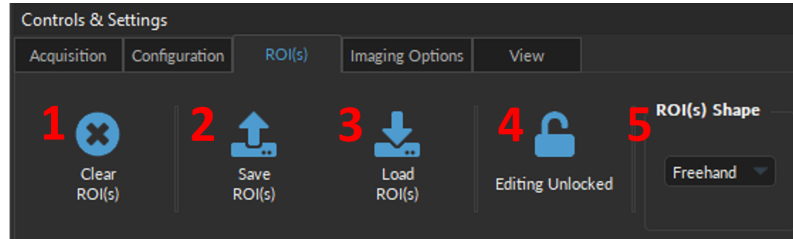

Figure 8.13: ROIs Tab
1. The **Clear ROI(s)** button (Fig. 8.13, 1) will delete all drawn regions of interest within the **Microscope View**. Note that unless the ROI(s) were previously saved, these ROI(s) cannot be recuperated.
2. The **Save ROI(s)** button (Fig. 8.13, 2) will save the region of interests drawn in the **Microscope View** in a *.doric* file, so that the identical ROI can be re-imported into the module at a later time. At least one ROI must be drawn for this feature to work.
3. The **Load ROI(s)** button (Fig. 8.13, 3) will import a previously saved *.doric* file. Note that this ROI(s) configuration can be edited, but must be re-saved in order for changes to be conserved.
4. The **Editing Unlocked** button (Fig. 8.13, 4) when enabled will prevent new ROI(s) from being drawn. However, it does not prevent moving or reshaping a selected ROI.
5. The **ROI(s) Shape** drop-down (Fig. 8.13, 5) sets the geometry of the ROI, which can be added at any point, even when not under the **ROI(s) tab** and in **Live** mode (but not when using **Record** mode). Four **ROI(s) Shapes** are available: *Freehand*, *Circle*, *Rectangle*, and *Square* (Fig. 8.14, 1-4). Multiple different shapes can be used within a single **Sensor View**.